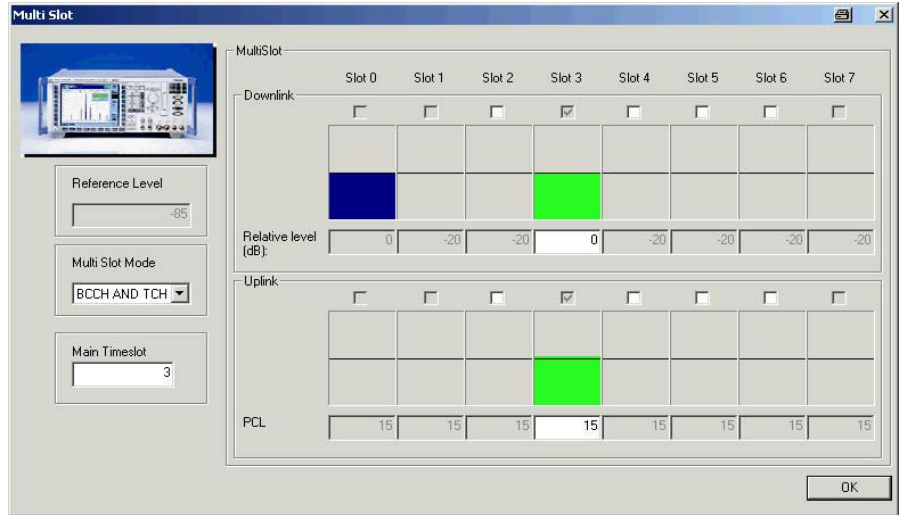

Fig. 30 - Call Setup: multislot
under **Support** in **Network Setup** . Thus, the CMU already generates a BCCH here with information about (E)GPRS so that additional (E)GPRS tests can be performed after the GSM test without carrying out another location update. The **Slot** mode differentiates between a single slot (conventional GSM (voice or data) and the **Multislot** mode (data only). If you select **Single Slot**, CMUgo uses the parameters under **Single Slot Configuration**; in the **Multislot** mode, an additional dialog is available (see Fig. 30). Now you have to specify the call direction: **Call to mobile** (MTC) or **Call from mobile** (MOC). Moreover, the phone can automatically be controlled via AT commands here: **from mobile (voice, AT commands)** sends ATD sends and the number listed **under the dialed number should be** to the phone; **from mobile (data, AT commands)** opens an additional dialog box in which you can enter any AT commands (Fig. 28). Finally, **Attenuations** allows you to specify the RF connector and the input and output attenuation.